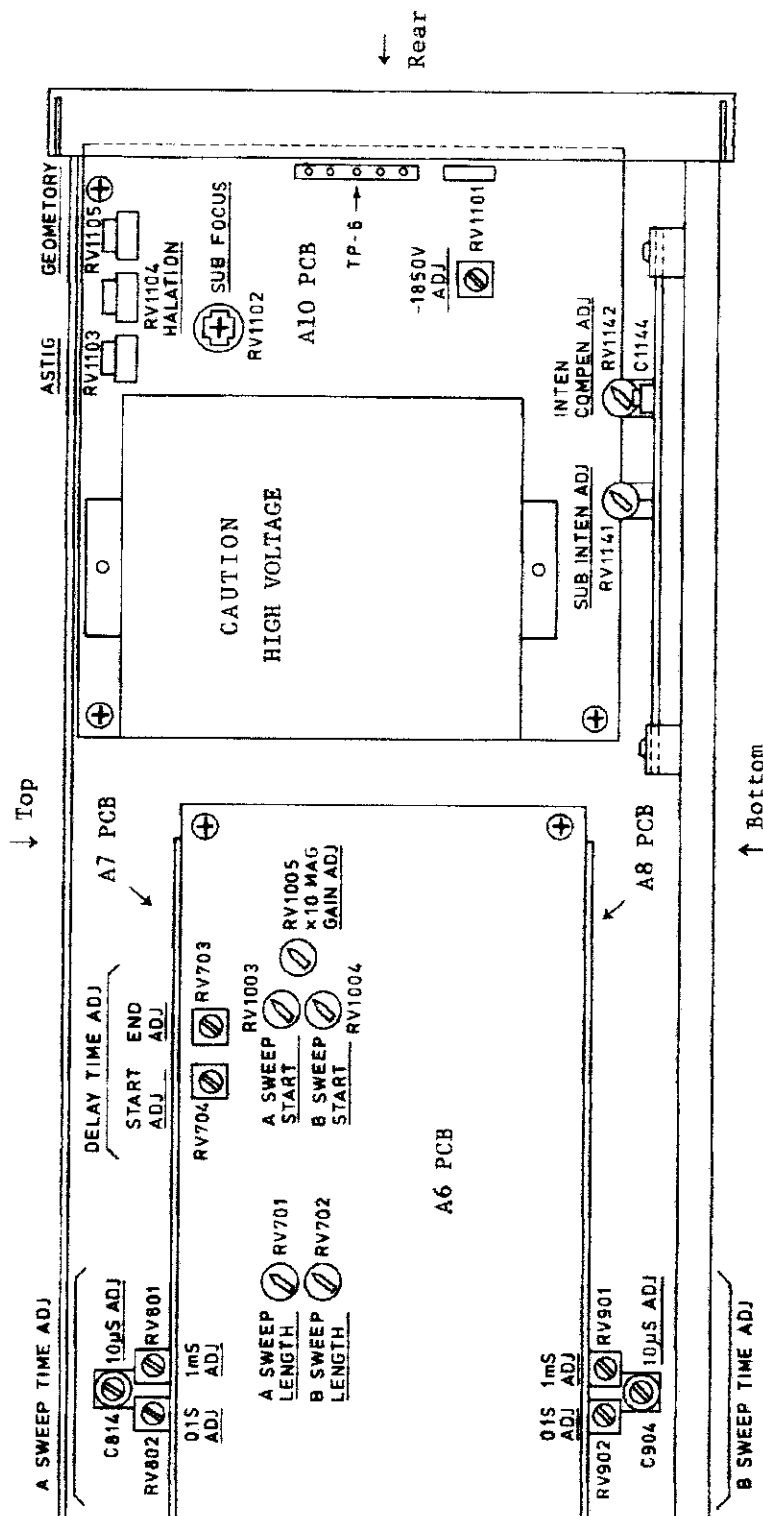

Figure 7-9 (Right hand side view)
- (1) Apply to the vertical input terminal a time marker signal of 0.1 sec or a signal of 10 Hz, and deflect the signal with an appropriate amplitude on the screen.
- (2) Set the VARIABLE knob (41) in the CAL'D position. Set the TIME/DIV switch (39) at 0.1 sec.
- (3) So adjust the 0.1S ADJ (Figure 7-9, RV802) that the displayed waveform conforms with scale divisions of the graticule.
- (4) Change the input signal to a time marker signal of 1 msec or sinusoidal wave signal of 1 kHz and change the TIME/DIV switch (39) to 1 msec.
- (5) So adjust the 1mS CAL (Figure 7-9, RV801) that the displayed signal waveform conforms with scale divisions of the graticule.
- (6) Next, change the input signal to a 10- $\mu$ sec time marker signal or a 100-kHz repetitive frequency signal and change the TIME/DIV switch indication to 10 $\mu$ S.
(7) So adjust C814 (Figure 7-9) that the displayed signal waveform conform with scale divisions of the graticule.
Calibrate the sweep time to the indicated values of the TIME/DIV switch (40). Adjust 0.1S and 1mS (Figure 7-9, RV902 and 901) and C904 (Figure 7-9) in a similar manner as that for the case of "Calibration of A sweep time."
This adjustment is for setting the lengths of the A and B sweeps at 11 DIV. Set the TIME/DIV switches (39) and (40) at 1 mS and apply a time marker signal of 1 msec or a signal of repetition frequency 1 kHz, and so adjust the A SWEEP LENGTH (Figure 7-9, RV701) and B SWEEP LENGTH (Figure 7-9, RV702) that the sweep length become 11 DIV.
- (1) Set the TIME/DIV switches (39) and (40) at 1 mS, set the DISPLAY switch (29) at ALT, and display both A and B sweeps on the screen.
- (2) So set the horizontal POSITION knobs (44) and (45) that their white dots are positioned upward (noon position). So adjust the A SWEEP START (Figure 7-9, RV1003) that the start point of the A sweep is brought to the left hand end of the graticule.
- (3) Next, with the B SWEEP START (Figure 7-9, RV1004), bring the start point of the B trace to left hand end of the graticule.
- (1) Apply to the vertical input terminal a time marker signal of 0.1 mS or a signal of 10 kHz and display the signal with an appropriate amplitude on the screen.
- (2) Set the VARIABLE knob (41) in the CAL'D position and the TIME/DIV switch (39) at 1 mS.
- (3) Turn on the  $\times 10$  MAG switch and so adjust the  $\times 10$  MAG GAIN ADJ (Figure 7-9, RV1005) that the displayed waveform conforms with scale divisions of the graticule.
- (1) Apply to the vertical input terminal a time marker signal of 1 mS and display the waveform with an appropriate amplitude on the screen.
- (2) Set the VARIABLE knob (41) in the CAL'D position, set the TIME/DIV switch (39) at 1 mS, set the TIME/DIV switch (40) at 10  $\mu$ S, and change the DISPLAY switch (29) to the A INTEN state.
- (3) Set the dial indication of the DELAY TIME MULTI at 1.00 and align the displayed waveform with the graticule.
- (4) So adjust the DT START (Figure 7-9, RV704) that the accentuated portion of the waveform is aligned to the initial pulse as shown in Figure 7-7.
- (5) Set the dial indication of the DELAY TIME MULTI at 10.00.
- (6) So adjust the DT END (Figure 7-9, RV703) that the accentuated portion of the waveform is aligned to the 10th pulse.